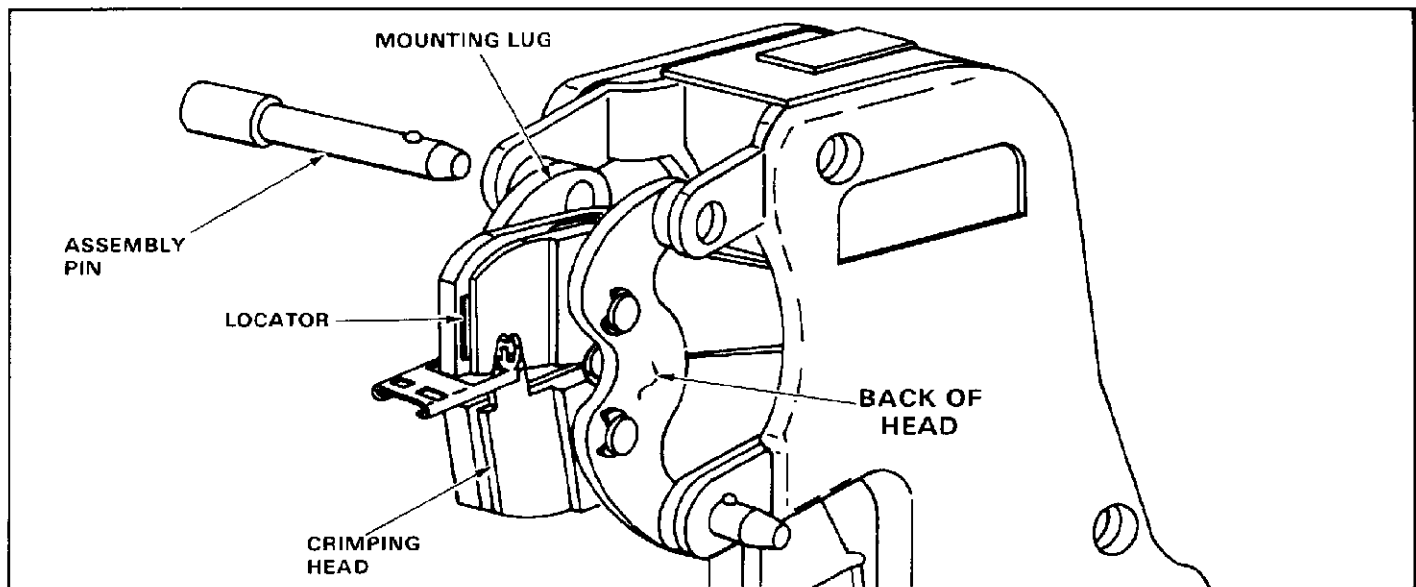

Fig. I-2
3. With crimping jaws open, insert head assembly shank into toggle arm until it bottoms. Mounting links must fit between tool mounting lugs. See Figure I-2.
After selecting an applicable loose-piece terminal, refer to Figure I-2 and proceed as follows: